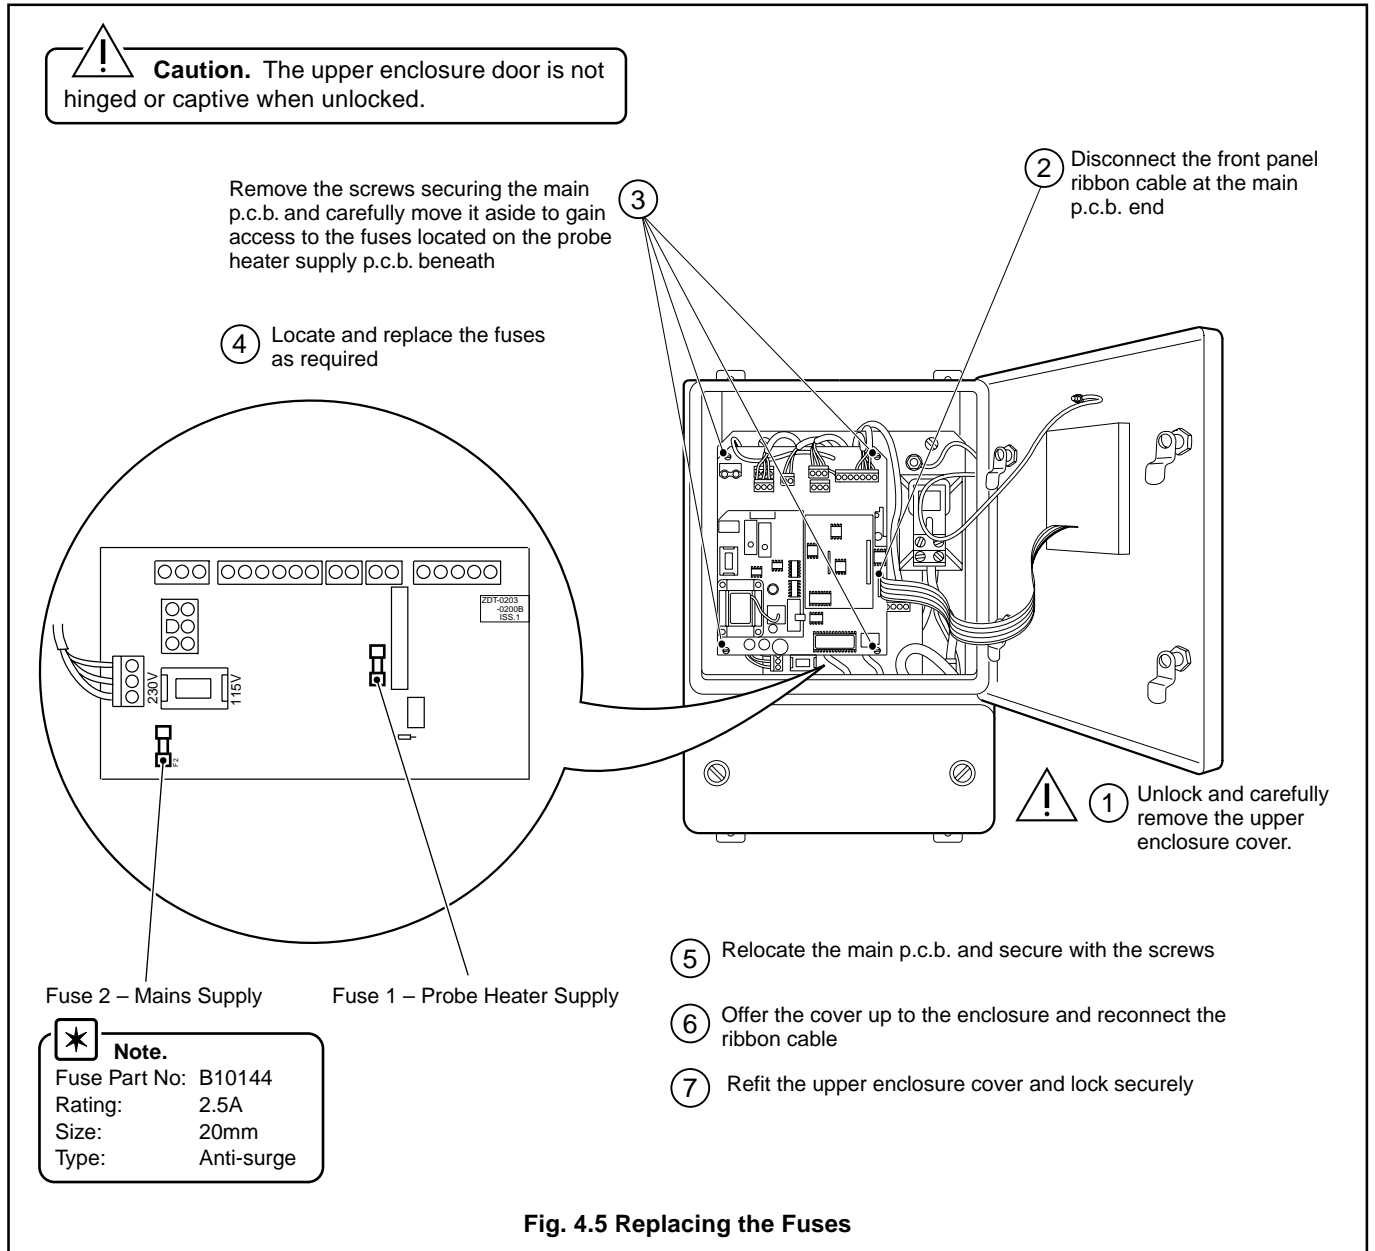

Fig. 4.5 Replacing the Fuses
4.4 Replacing the Fuses – Fig. 4.5